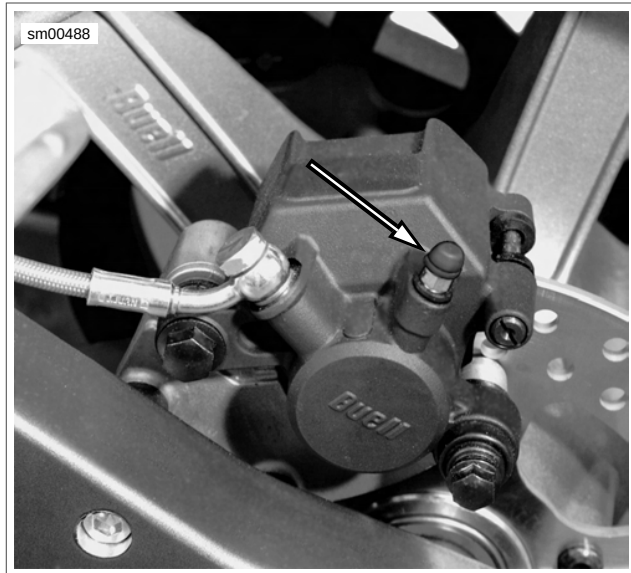

Figure 2-52. Rear Caliper Bleeder Valve
1. See Figure 2-52. Drain brake fluid into a suitable container. Discard used fluid according to local laws.